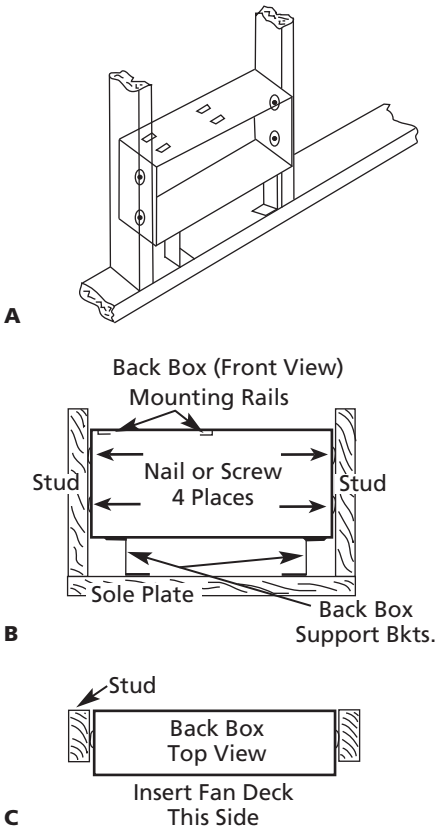
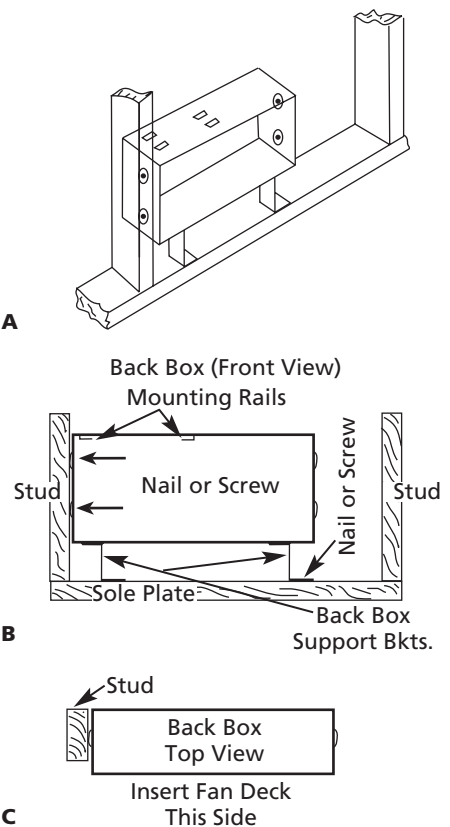

Figure 2
Figure 3
3. Power supply must enter back box through the knockouts in the LEFT side of box. Do not use the knockouts in the right side of the box (see Figure 2). See also TOP marking on the back box for proper orientation.
Heaters are designed for recessed installation in standard 2 x 4 (50 mm x 100 mm) or larger stud walls with the back box mounted as shown in either Figure 2, or Figure 3.
(Refer to Figure 2)
**TO INSTALL BACK BOX IN NEW CONSTRUCTION – WALL STUDS SPACING GREATER THAN 16" O.C.** (Refer to Figure 3)
**NOTE:** Figure 3 depicts the back box installed with the left side adjoining stud. For a box with the right side adjoining a stud, reverse the directions shown below.